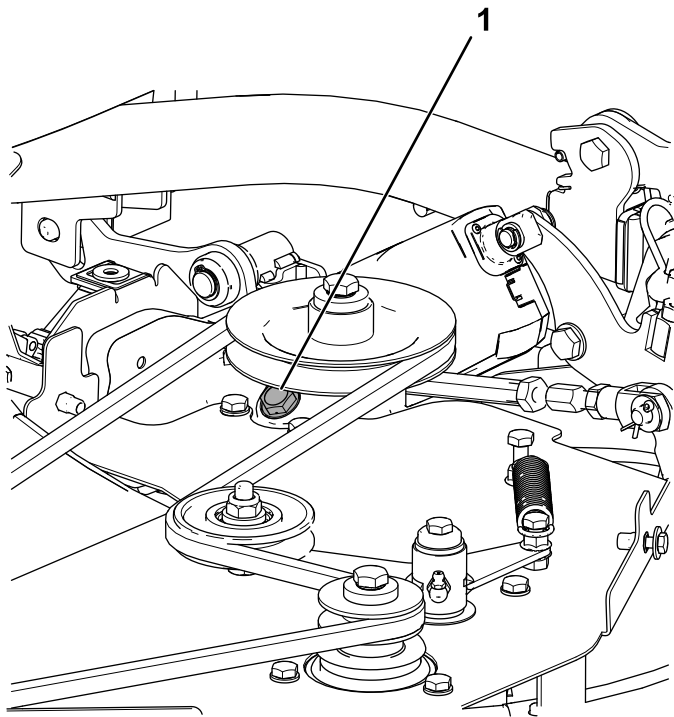

Figure 94
1. Remove the cutting unit gearbox plug (Figure 94).
1. Remove the plug from the cutting-unit gearbox (Figure 94).
3. Install the plug into the cutting-unit gearbox (Figure 94).